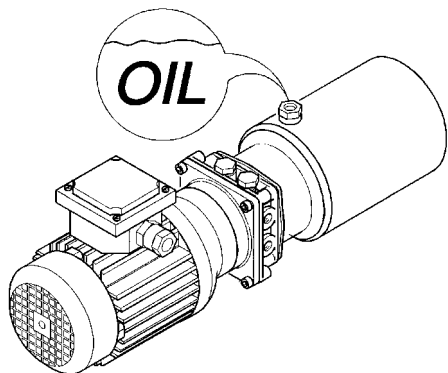

Fig.54
3. Check hydraulic oil level once a month (fig.54).